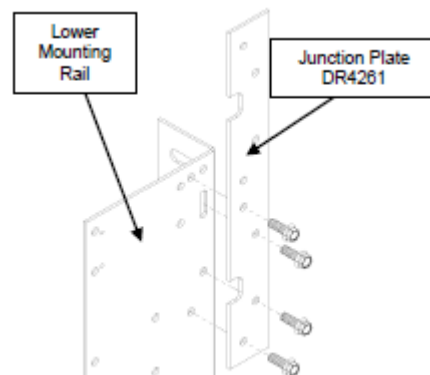

Figure 5. Attaching Junction Plate to tops of bottom Mounting Rails.
1. The lower mounting rail can be comprised of two sections. For doors greater than 8ft use the shorter mounting rail section on the bottom and secure using the junction plates DR4261 (**SEE FIGURE 5**).